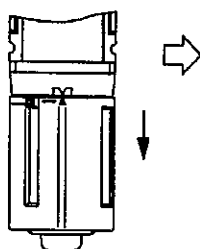

Fig. 2
- (b) Pull the bowl and bowl guard downward and off. (Fig. 2, 3)